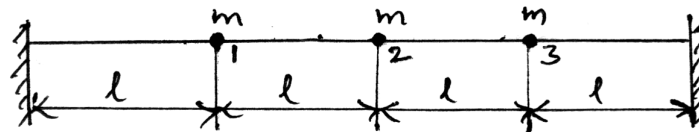

Fig. Q3
3. A string is stretched with a large tension T between two points and has three point masses fixed along its length as shown in Fig. Q3. The masses can vibrate freely in the lateral direction.